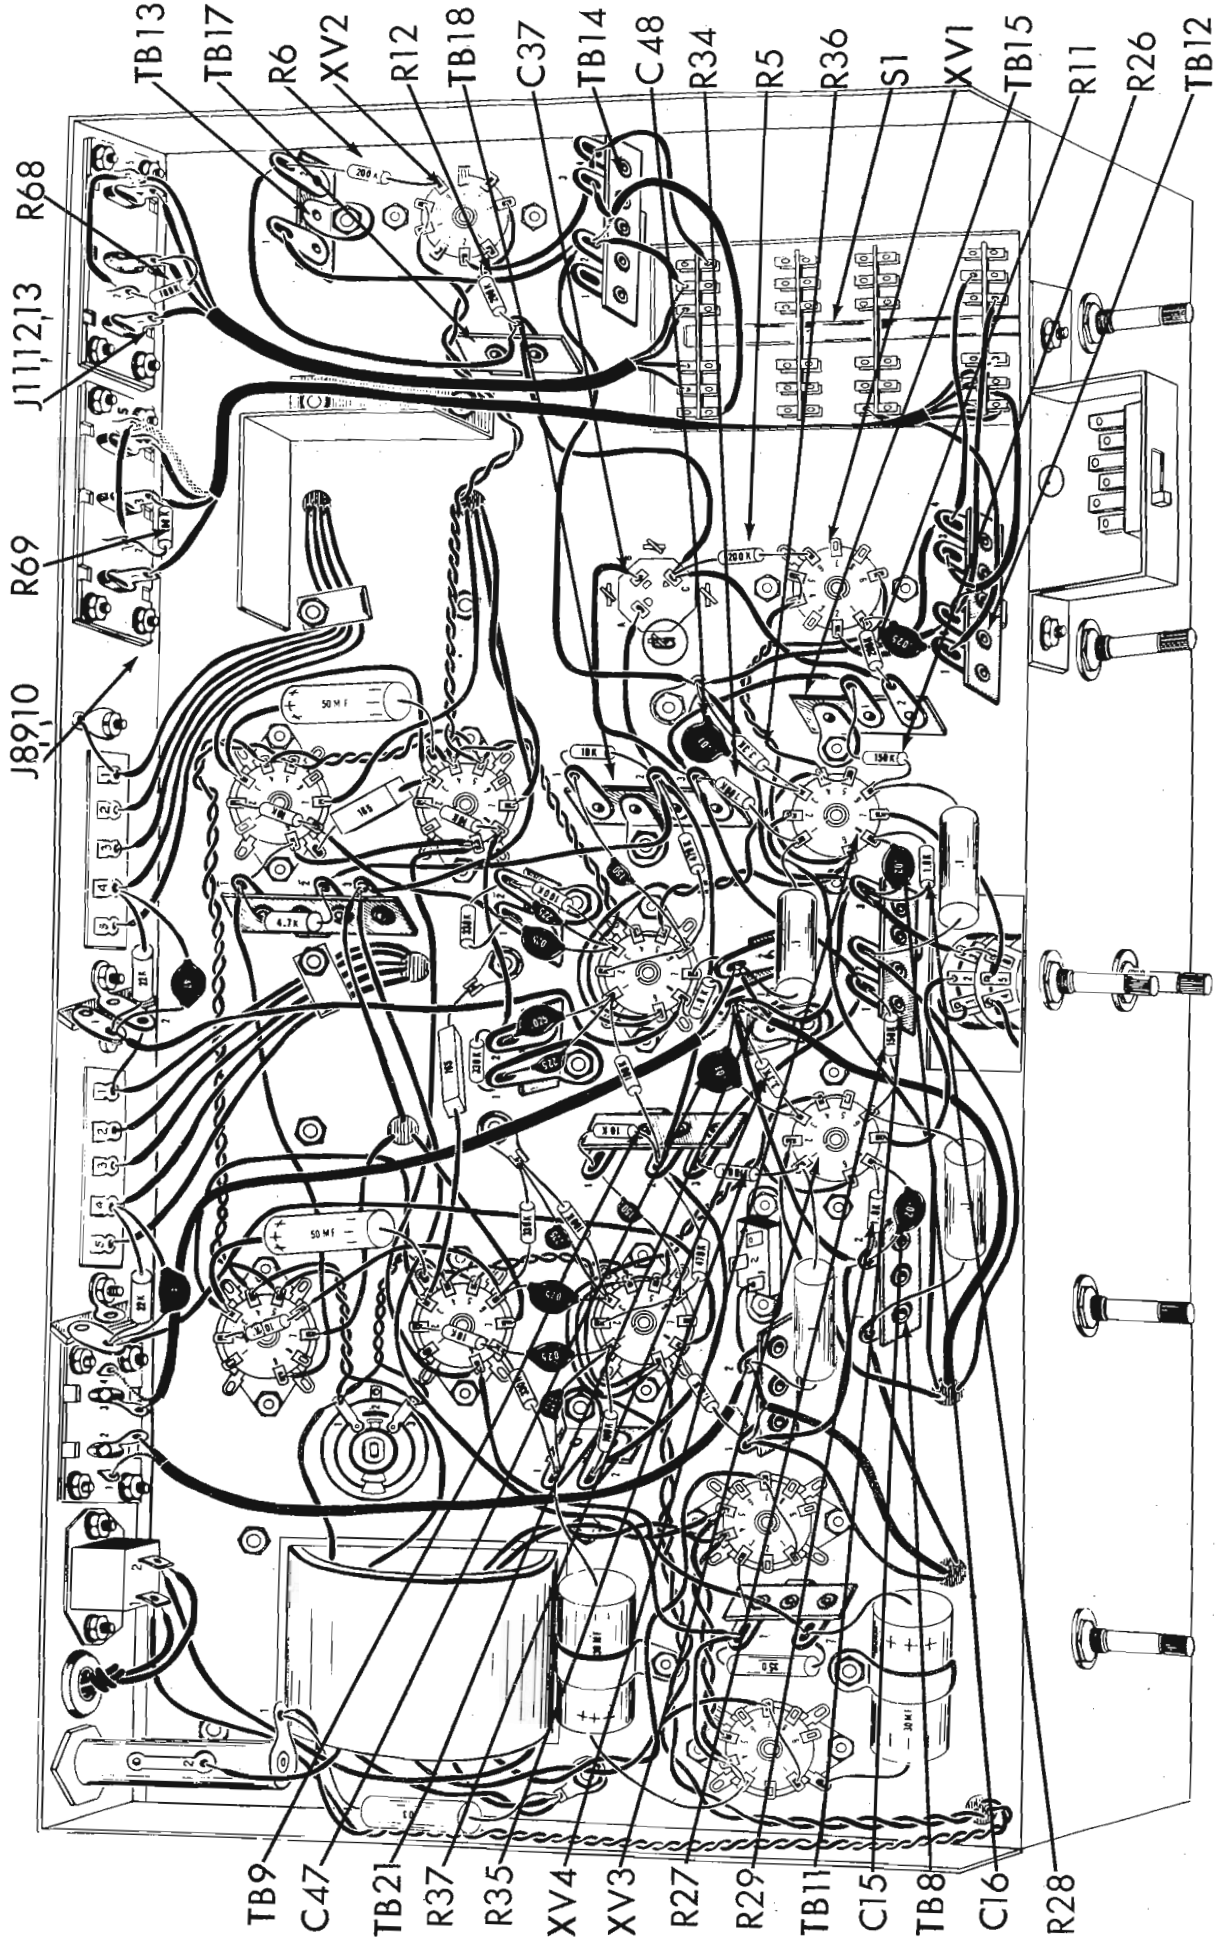

Fig. 10
1. (✓) Fig. 10. Cut all leads on two 100KΩ (brown, black, yellow, silver) resistors, R34 and R35, to 1/2". Connect R34 from XV4-1 (S2) to TB18-3 (S4). Connect R35 from XV3-1 (S2) to TB9-3 (S2).
2. (✓) Fig. 10. Cut all leads on two 150KΩ (brown, green, yellow, silver) resistors, R26 and R27, to 1/2". Connect R26 from XV4-6 (S2) to TB15-1 (S2). Connect R27 from XV3-6 (S2) to TB11-1 (S3).
3. (✓) Fig. 10. Cut all leads on two 1.8KΩ (brown, grey, red, silver) 10% resistors, R28 and R29, to 1/2". Connect R28 from XV4-8 (C) to TB11-3 (C). Connect R29 from XV3-8 (C) to TB8-2 (C).
4. (✓) Fig. 10. Cut all leads on two .02 mfd (20K or 20,000 mmf) disc capacitors, C15 and C16, to 1/2". Connect C15 from XV3-8 (S2) to TB8-2 (S4). Connect C16 from XV4-8 (S2) to TB11-3 (S5).
5. (✓) Fig. 10. Cut all leads on two 3.3KΩ (orange, orange, red, silver) resistors, R36 and R37, to 5/8". Connect R36 from XV4-3 (C) to ground lug "G" (C). Connect R37 from XV3-3 (C) to TB21-1 (C).
6. (✓) Fig. 10. Cut all leads on two .01 mfd (10K or 10,000 mmf) disc capacitors, C47 and C48, to 3/4". Connect C47 from XV3-3 (S2) to TB21-1 (C). Connect C48 from XV4-3 (S2) to ground lug "G" (C).
7. (✓) Fig. 10. Connect a 4" piece of orange wire from C37-C (C) to TB15-2 (C).
8. (✓) Fig. 10. Connect a 3 1/2" piece of black wire from ground lug "G" (C) to TB12-2 (C).
9. (✓) Fig. 10. Connect a 4" piece of orange wire from TB17 (C) to C37-C (C).
10. (✓) Fig. 10. Connect a 4 1/2" piece of black wire from ground lug "G" (C) to TB14-2 (C).
11. (✓) Fig. 10. Connect a 4" piece of orange wire from TB17 (C) to TB13-2 (C).
12. (✓) Fig. 10. Connect a 3 1/2" piece of black wire from TB14-2 (C) to TB13-1 (C).
13. (✓) Fig. 10. Connect the black lead from S1A-10 to TB12-2 (C).
14. (✓) Fig. 10. Connect the brown lead from S1D-7 to TB12-1 (C).
15. (✓) Fig. 10. Connect the shield from the single conductor shielded cable
- from S1B-5) to TB12-2 (C). Connect the inner conductor to TB12-3 (C).
16. (✓) Fig. 10. Connect the grey lead from S1B-11 to TB12-4 (C).
17. (✓) Fig. 10. Connect the grey lead from S1G-12 to TB14-4 (C).
18. (✓) Fig. 10. Connect the shield from the single conductor shielded cable (from S1G-6) to TB14-2 (C). Connect the inner conductor to TB14-3 (C).
19. (✓) Fig. 10. Connect the black lead from S1H-11 to TB14-2 (C).
20. (✓) Fig. 10. Connect a 1 1/2" piece of bare wire covered with a 1/4" piece of spaghetti from J8, 9, 10-2 (C) to J8, 9, 10-5 (C).
21. (✓) Fig. 10. Connect a 1 1/2" piece of bare wire covered with a 1/4" piece of spaghetti from J11, 12, 13-2 (C) to J11, 12, 13-5 (C).
22. (✓) Fig. 10. Cut all leads on two 100KΩ (brown, black, yellow, silver) resistors, R68 and R69, to 1/2". Connect R68 from J11, 12, 13-2 (S2) to J11, 12, 13-3 (C). Connect R69 from J8, 9, 10-2 (S2) to J8, 9, 10-3 (C).
23. (✓) Fig. 10. Run the three conductor shielded cable from switch wafer S1B along the chassis as shown. Connect the shield to J8, 9, 10-5 (S2); connect the brown lead to J8, 9, 10-1 (S1), connect the red lead to J8, 9, 10-3 (S2); and connect the orange lead to J8, 9, 10-4 (S1).
24. (✓) Fig. 10. Run the three conductor shielded cable from switch wafer S1H along the chassis as shown. Connect the shield to J11, 12, 13-5 (S2); connect the brown lead to J11, 12, 13-1 (S1); connect the red lead to J11, 12, 13-3 (S2); and connect the orange lead to J11, 12, 13-4 (S1).
25. (✓) Fig. 10. Connect a 2" piece of grey wire from TB12-4 (C) to XV1-2 (C).
26. (✓) Fig. 10. Connect a 3" piece of grey wire from TB14-4 (C) to XV2-2 (C).
27. (✓) Fig. 10. Cut all leads on four 200KΩ (red, black, yellow, gold) 5% resistors, R5, R6, R11 and R12 to 5/8". Connect R5 from C37-C (C) to XV1-6 (C). Connect R6 from TB13-2 (S2) to XV2-6 (C). Connect R11 from TB15-2 (S2) to XV1-1 (C). Connect R12 from TB17 (S3) to XV2-1 (C).